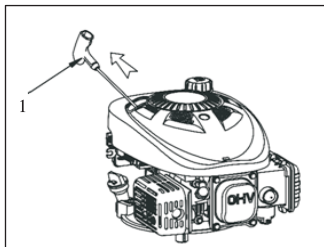

Fig.3
⚠ CAUTION: Do not allow the starter grip (1) to snap back against the engine. Return it gently to prevent damage to the starter. (See Fig. 3)